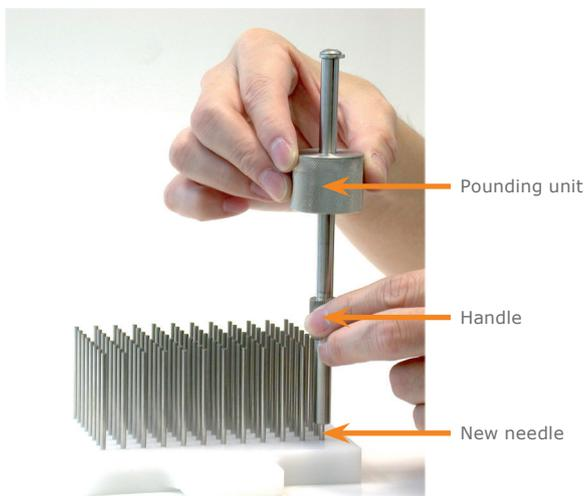

Figure 10. Inserting the new needle into the needle assembly.
3. Position the needle perpendicular to the needle head assembly; see Figure 10.